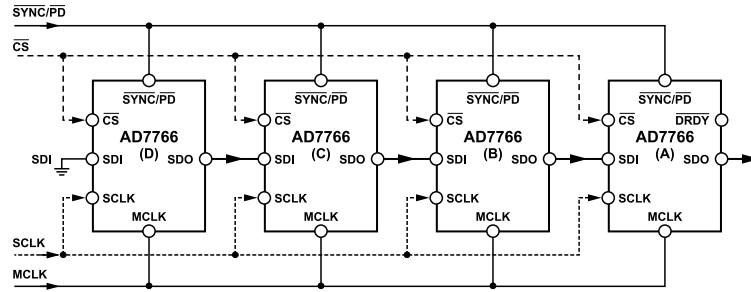
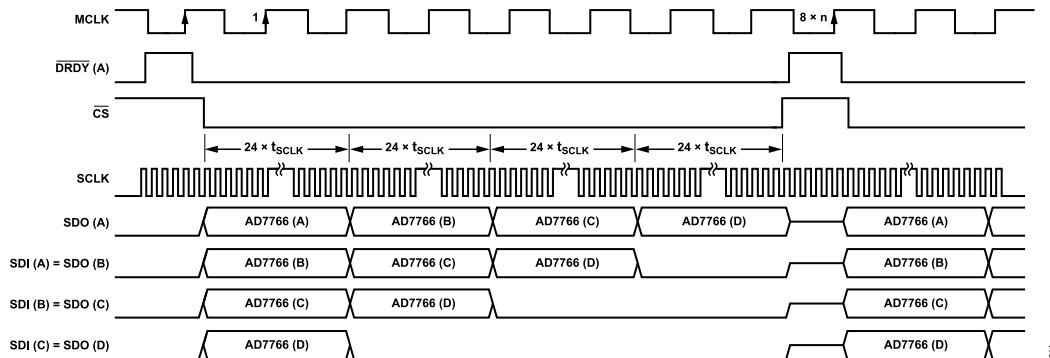
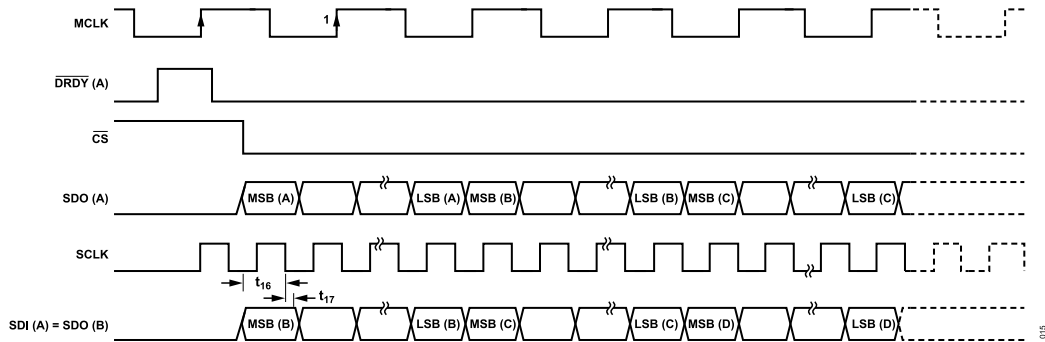

Figure 36. Daisy-Chain Configuration with Four AD7766 Devices
Figure 37. Daisy-Chain Timing Diagram ($n = 1$ for AD7766, $n = 2$ for AD7766-1, $n = 4$ for AD7766-2) When Driving the AD7766
Figure 38. Daisy-Chain SDI Setup and Hold Timing
The block diagram in Figure 36 shows how devices must be connected to achieve daisy-chain functionality. The scheme shown operates by passing the output data of the SDO pin of an AD7766 device to the SDI input of the next AD7766 device in the chain. The data then continues through the chain until it is clocked onto the SDO pin of the first device in the chain.
An example of a daisy chain of four AD7766 devices is shown in Figure 36 and Figure 37. In the case illustrated in Figure 36, the output of the AD7766 labeled A is the output of the full daisy chain. The last device in the chain (the AD7766 labeled D) has its serial data input (SDI) pin connected to ground. All the devices in the chain must use common MCLK, SCLK, \overline{CS} , and $\overline{SYNC/PD}$ signals.
After applying a $\overline{SYNC/PD}$ pulse to all the devices, there is a delay (as listed in Table 7) before valid conversion data appears at the output of the chain of devices. As shown in Figure 37, the first conversion result is output from the AD7766 device labeled A. This 24-bit conversion result is followed by the conversion results from the devices labeled B, C, and D, with all conversion results output in an MSB-first sequence. The stream of conversion results is clocked through each device in the chain and is eventually clocked onto the SDO pin of the AD7766 device labeled A. The conversion results of all the devices in the chain must be clocked onto the SDO pin of the final device in the chain while its \overline{DRDY} signal is active low. This is illustrated in the examples shown (Figure 37 and Figure 38), where the conversion results from the devices labeled A, B, C, and D are clocked onto SDO (A) during the time between the falling edge of \overline{DRDY} (A) and the rising edge of \overline{DRDY} (A).
As shown in Figure 37, the number of SCLK falling edges that occurs during the period when \overline{DRDY} (A) is active low must match the number of devices in the chain multiplied by 24 (the number of bits that must be clocked through onto SDO (A) for each device).